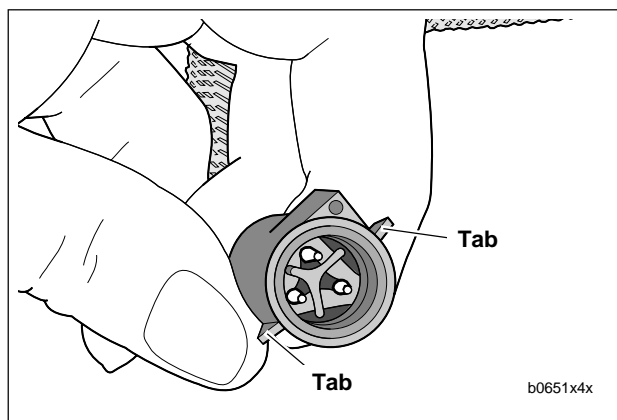

Figure 4-80. Tabs on TP Sensor Connector [88A]
3. See Figure 4-80. Attach throttle position sensor connector [88]. Slots on female connector [88B] must fully engage tabs on male connector housing [88A].